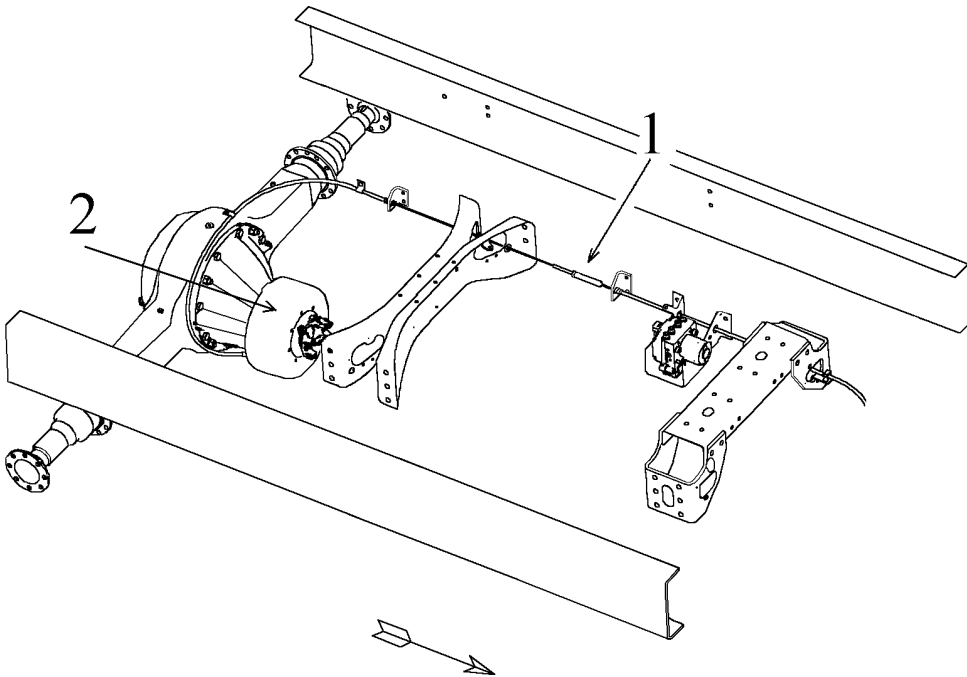

Figure 1 Parking Brake System Overview: Manual Brake
2. Locate the park brake cable adjustment turnbuckle in the left frame rail (Figure 1).
NOTE – Check cable tension immediately forward of the turnbuckle (Figure 1).
If tension is incorrect, remove tool, release park brake, and re-adjust tension using the park brake cable turnbuckle (Figure 1). Recheck cable tension. Repeat steps 1–4 until tension is within correct limits.